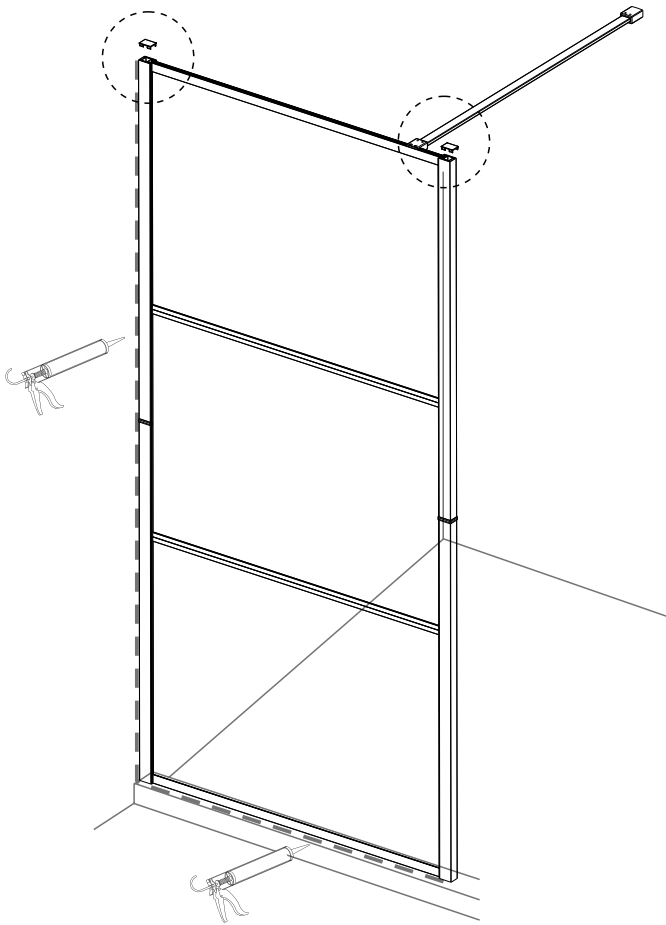

Fig 5.1
2. Apply a good quality Silicone Sealant at the outer corner formed by the wall and the shower door. (Fig 5.1)